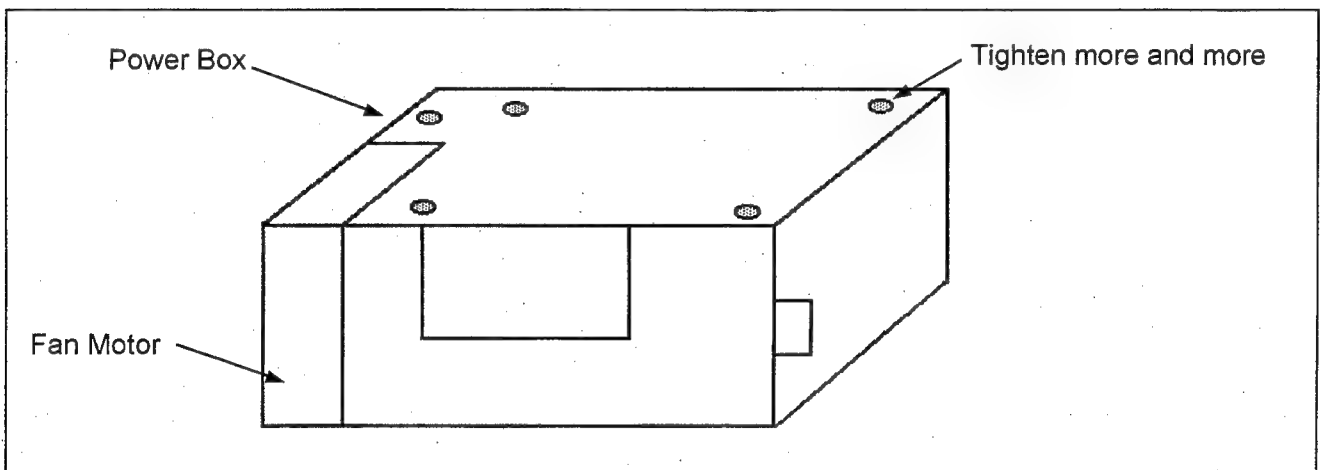

Fig. 9
- 5). The fixing screw for Power Box is tightened more and more as shown in figure 9.
- 6). The fixing screw for Power Box is tightened more and more as shown in figure 9.